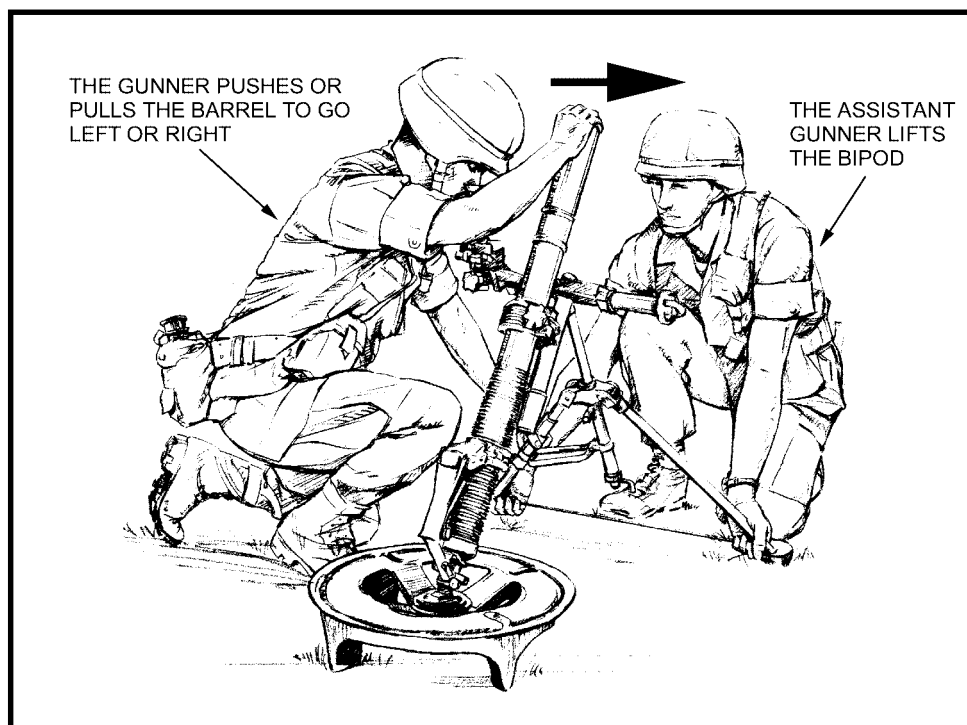

Figure 3-6. Large deflection and elevation changes.
- c. The squad leader moves into position to the front of the bipod on either knee and grasps the bipod legs (palms out), lifting until the feet clear the ground enough to permit lateral movement. The gunner moves the mortar as the squad leader steadies it, attempting to horizontally maintain the traversing mechanism. To make the shift, the gunner places the fingers of his right hand in the muzzle (Figure 3-6, page 3-10) and his left hand on the left leg, and moves the mortar until the vertical line of the sight is aligned approximately on the aiming post. When the approximate alignment is completed, the gunner signals the squad leader to lower the bipod by pushing down on the mortar.